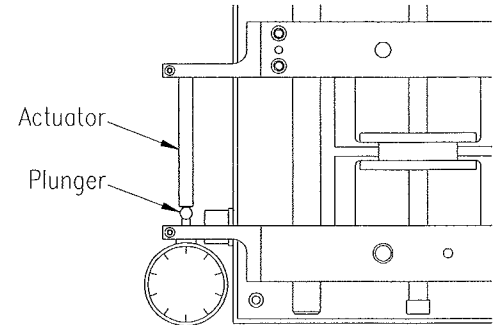

Figure 5, Setting Minimum Crosshead Limits
3. Adjust the tension and compression thumb screw adjustable limit switches until the actuator and the dial gauge plunger come in contact as shown in Figure 5.